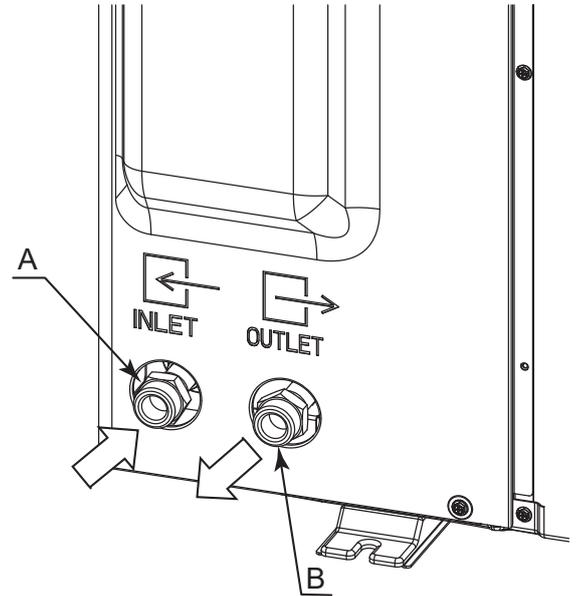

Fig. 2-8
[1] Water piping connection (Fig. 2-8)
- Inlet and outlet pipes position is shown on the Fig. 2-8.
[Fig. 2-8]